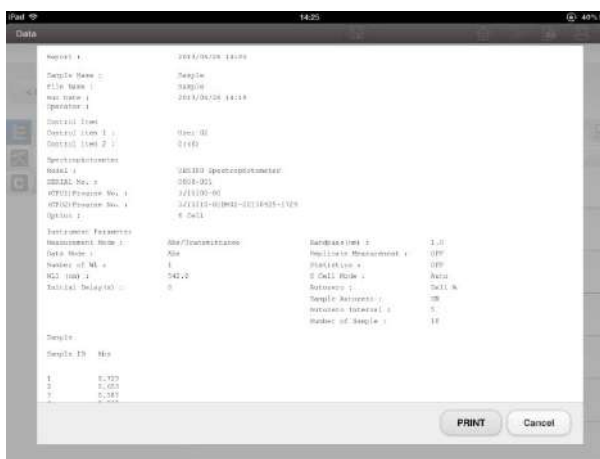

Fig. 4-45 Print Preview Window
- (3) Print preview (Fig. 4-45) will be shown.